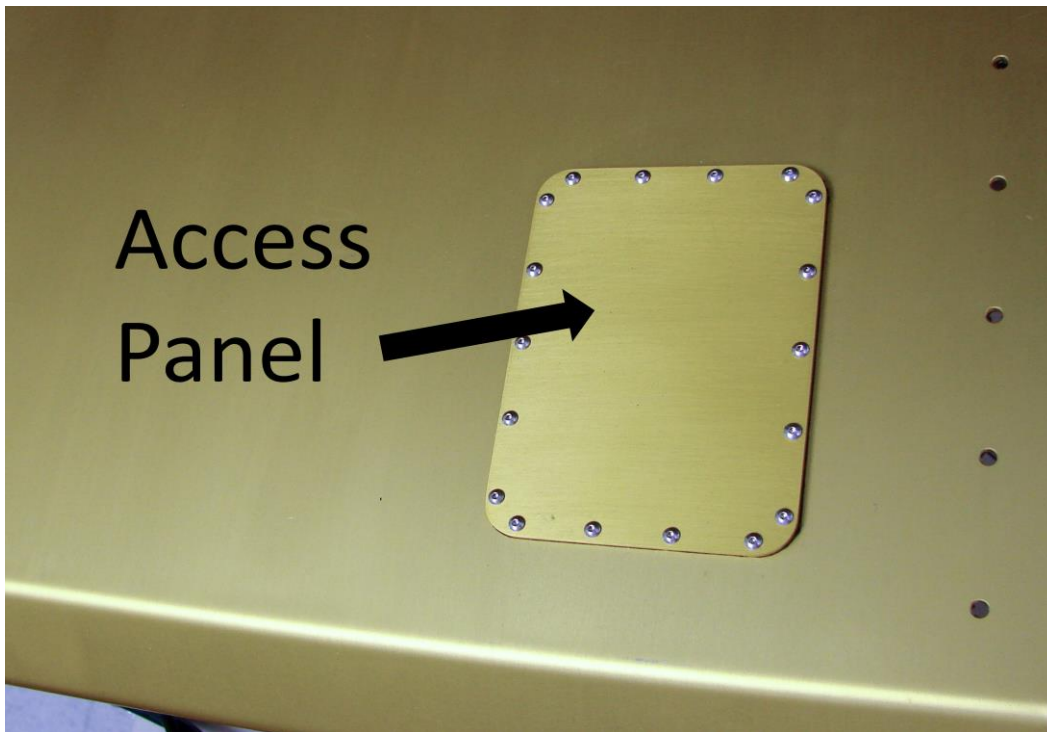

Figure 13: Fog Monitor Access Panel
1. To clean the FM-120 windows, remove the access panel shown in Figure 13. Use the Allen wrench to remove the #4 screws.